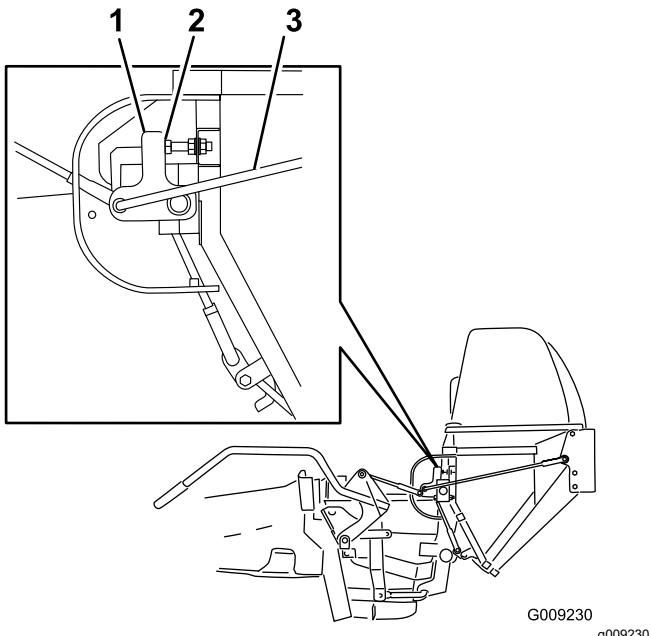

Figure 47
3. With the door closed, loosen the nuts and adjust the stop bolts so that the contact arm is straight up and down (Figure 47).
4. Adjust the length of the hinge links to so that the door completely closes and reasonable force is on the handle (Figure 47).